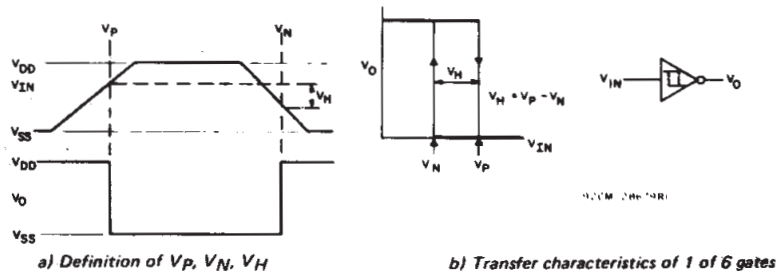

Fig. 6 - Hysteresis definition, characteristics, and test set-up.
■ CD40106B consists of six Schmitt-trigger circuits. Each circuit functions as an inverter with Schmitt-trigger action on the input. The trigger switches at different points for positive- and negative-going signals. The difference between the positive-going voltage (V_P) and the negative-going voltage (V_N) is defined as hysteresis voltage (V_H) (see Fig.6). The CD40106B types are supplied in 14-lead hermetic dual-in-line ceramic packages (F3A suffix), 14-lead dual-in-line plastic packages (E suffix), 14-lead small-outline packages (M, MT, M96, and NSR suffixes), and 14-lead thin shrink small-outline packages (PW and PWR suffixes).